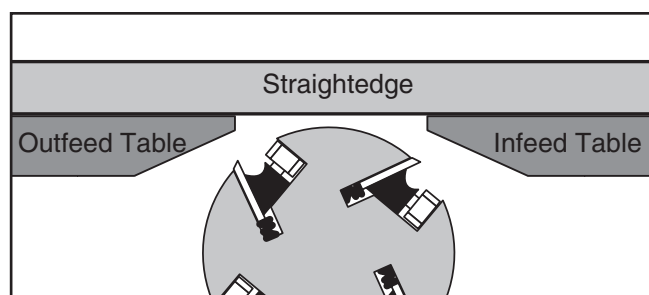

Figure 55. Infeed and outfeed tables set evenly (knife-style cutterhead shown).
- Place straightedge halfway across infeed and outfeed tables, and adjust infeed table even with outfeed table, as shown in **Figure 55**.